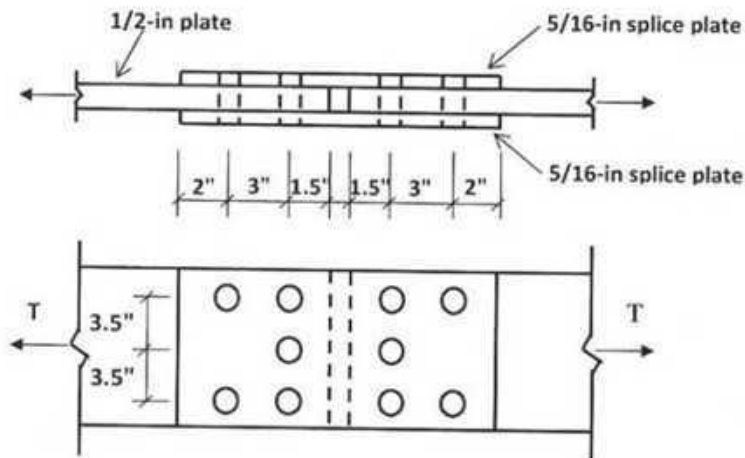

Fig. 1
1. Using AISC/ASD method, determine the block shear allowable load for the joint shown in Fig. 1. Fasteners are  $\frac{3}{4}$ " A-325 bolts in standard holes. All plates are A36 steel. See Annexure-1. 8 ½